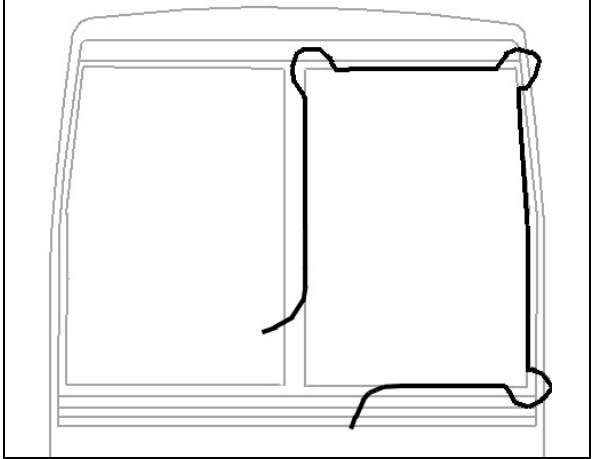

FIGURE 17: WINDSHIELD INSTALLATION USING ROPE
- Insert rope into rubber extrusion leaving enough length at each corner to make a loop. Spray soapy water onto rope and rubber extrusion (Figure 17).